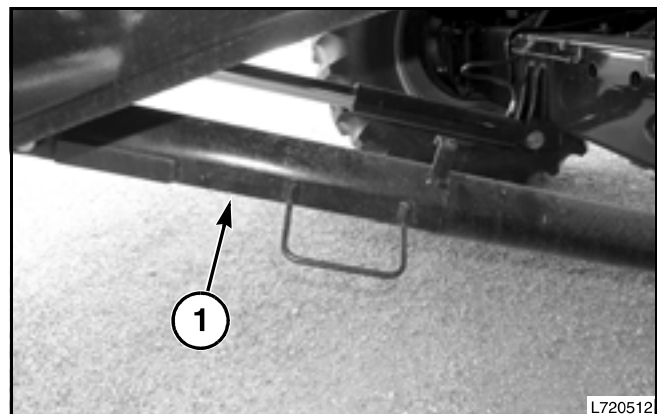

FIG. 10
FIG. 10: Put the feeder housing on the ground or fully extend the header lift cylinders. Position the header lift cylinder stop (1) so that the stop fully contacts and covers three sides of the lift cylinder rod. Lower the feeder housing until the header lift cylinder stop contacts the end of the cylinder.